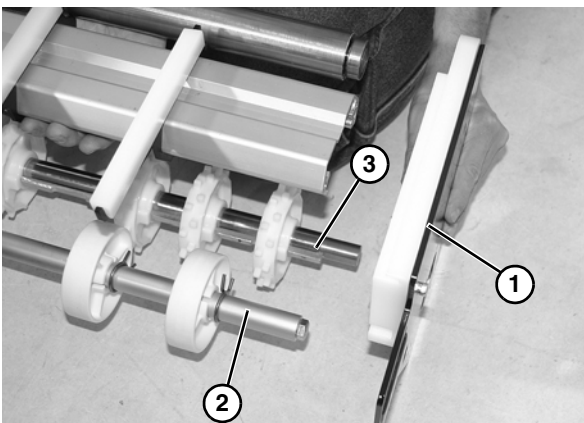

Figure 55
11. Remove end plate (Figure 55, item 1), and remove lower roller assembly (Figure 55, item 2) from end plate and opposite end plate.
12. Remove drive spindle (Figure 55, item 3) from terminal assembly.